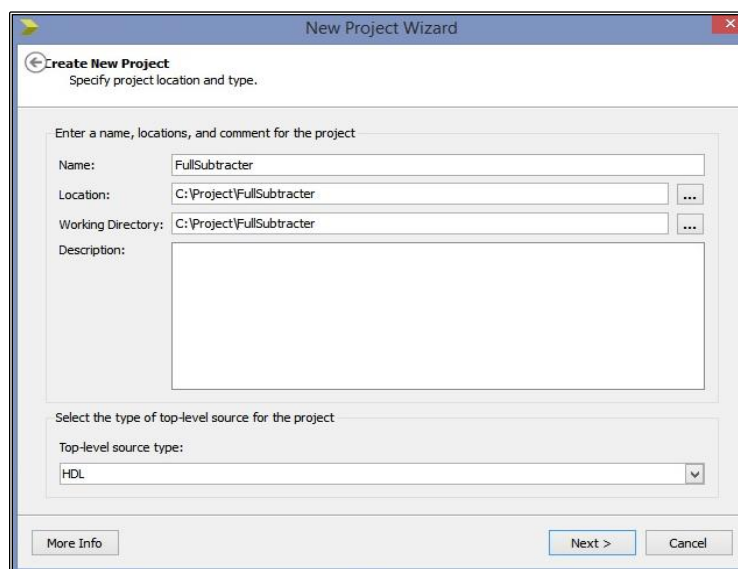

Fig 4.1: New Project
2. From the toolbar, select **File => New Project**. In the **New Project Wizard** window type “FullSubtractor” in the **Name** field and in the **Location** field, browse C:\Project or choose the directory in which you want to store the project. Select **HDL** as the **Top-Level Source Type** and click **Next** (Fig 4.1).